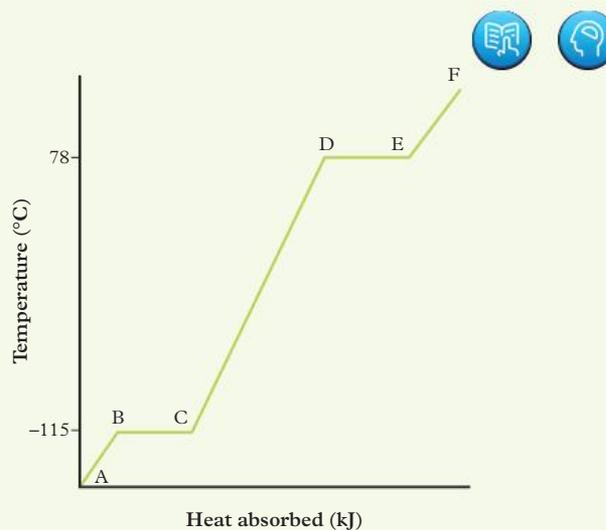

FIGURE 6 A heating curve for ethanol
- 5 A heating curve for ethanol is shown in Figure 6.
- 6 Design an experiment to obtain a heating curve such as the one in Figure 6.